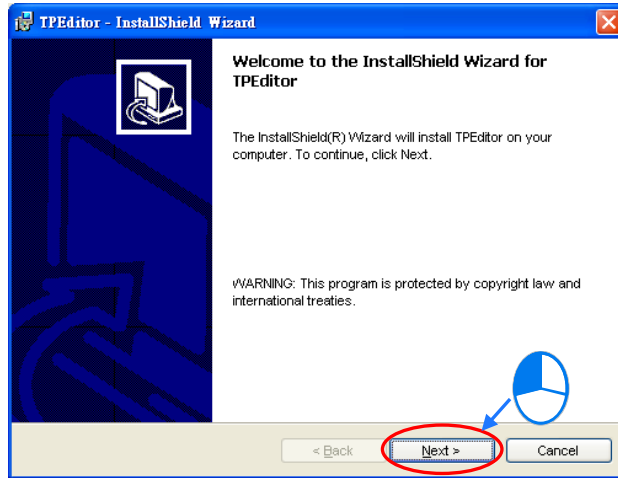

Figure 1-2 Process of installing TPEditor
(4) After the **InstallShield Wizard** window appears, click **Next**, as shown in Figure 1-2.